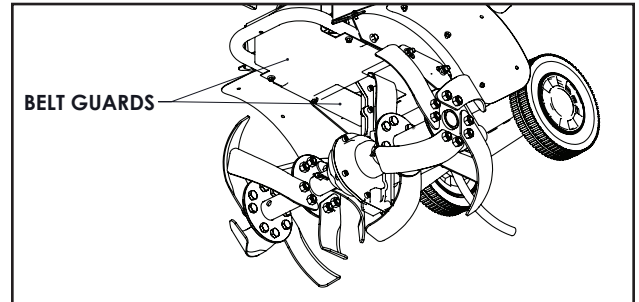

FIGURE 8-Belt Tension Adjustment
3. Remove front and rear belt guards. **SEE FIGURE 8.**